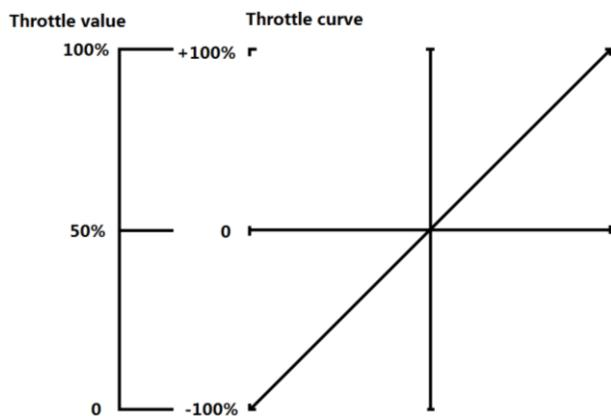

图 1
一般来说，我们的遥控器默认设置的油门曲线与螺距曲线是如图 1, 2 所示的：
- In "Helicopter (Store Governor)" mode, connect the ESC to the LCD program box or WIFI Express module when the RPM standardization completes, and then find the record (as shown in Figure 1) as per the instruction about the " data checking" process.